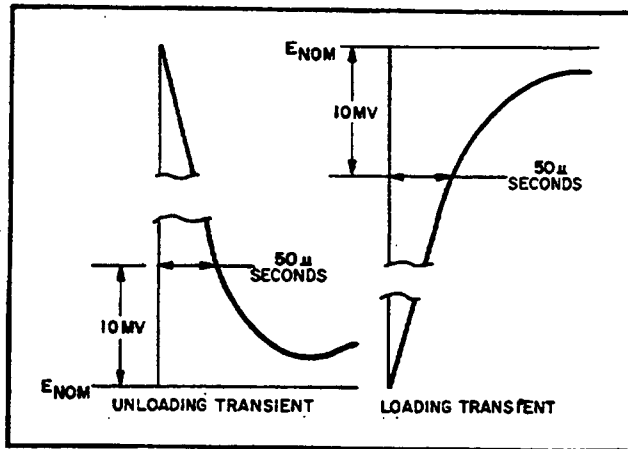

Figure 5-7. Transient Recovery Time, Waveforms
- Starting from the major graticule division representative of time zero, count to the right 50µ sec and vertically 10mV. Recovery should be within these tolerances as illustrated in Figure 5-7.